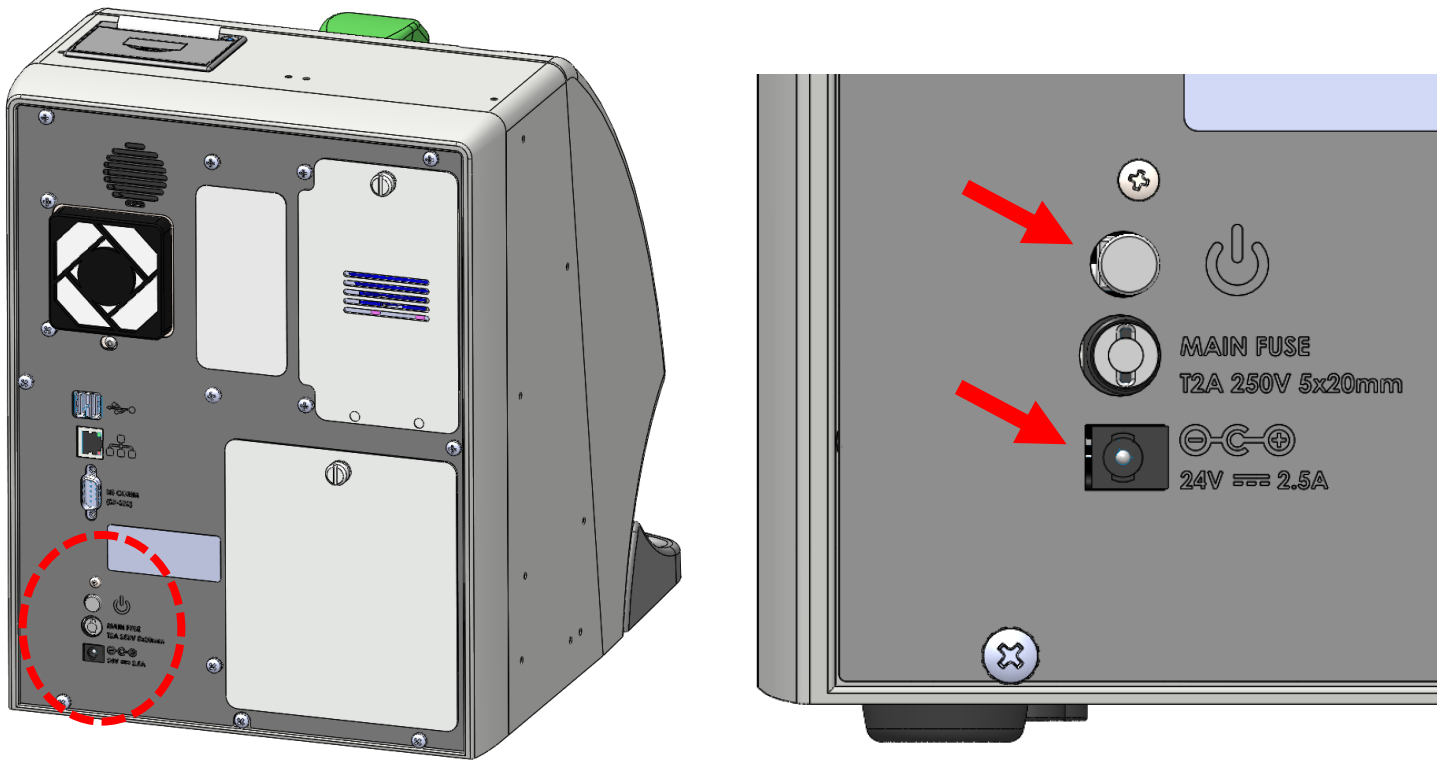

Figure 1
1. Power off instrument and disconnect the power supply from power input at the rear of the device. See Figure 1.